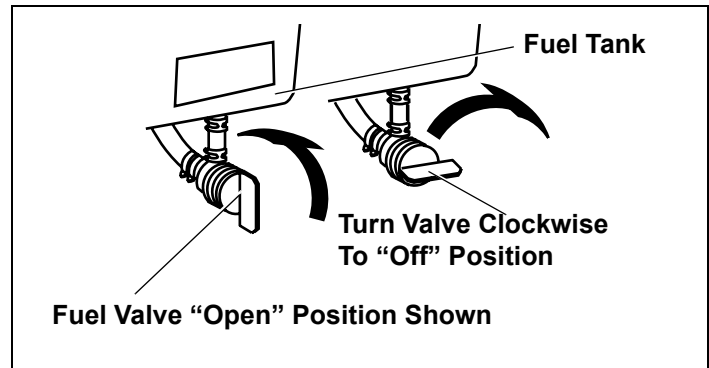

Figure 13. Optional Fuel Valve Positions
2. Be sure fuel valve (optional) is open and all switches are on. See Figure 13.